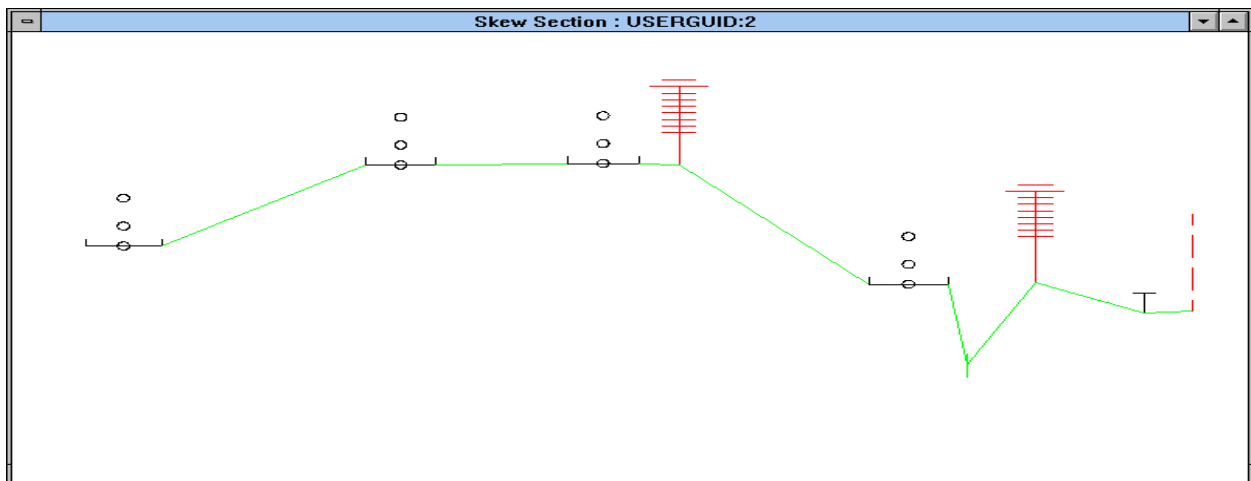

Figure 11. Skew section.
6.1.3 Skew Section. A skew section illustrates a cross-sectional area within the Plan View from a viewpoint normal to the ground plane (see Figure 11). You define the desired area by drawing a single, cutting line across objects in the Plan View (Note: The entire object must be displayed within the Plan View for it to be selected). Specifically, to create a skew section: